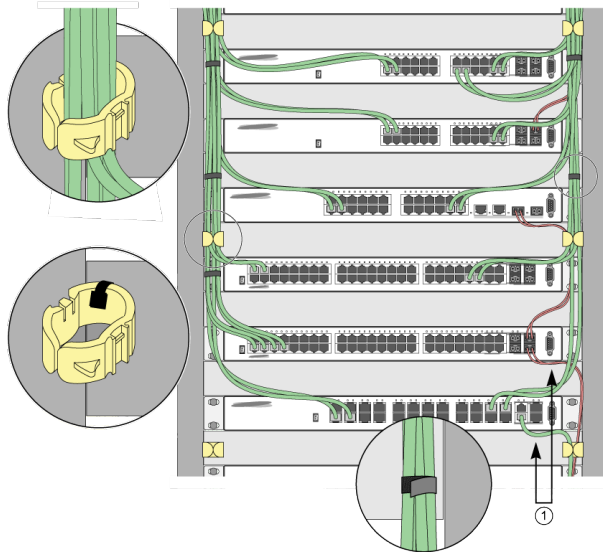

Figure 32: Properly Installed and Bundled Cable
- Provide enough slack, approximately 5 to 7.5 cm (2 to 3 in), to provide proper strain relief as shown in Figure 32 on page 56.
- When installing a patch panel using twisted pair wiring, untwist no more than 2.5 cm (1 in) of the cable to avoid radio frequency (RF) interference.